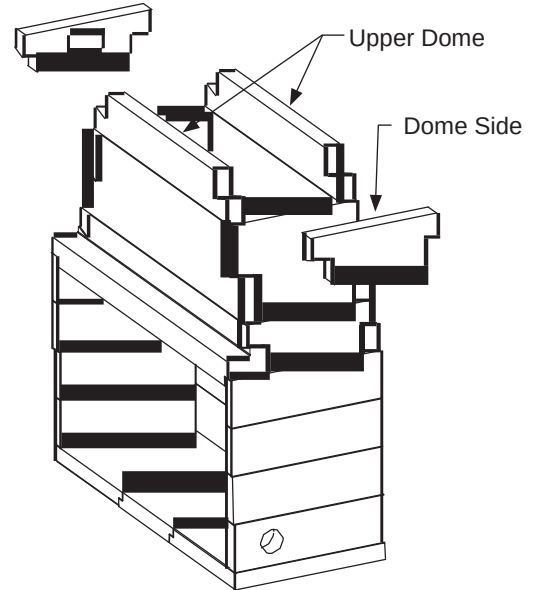

**Figure 46 - Attaching Middle Dome**
13) **MM63 ONLY:** Position Middle Domes so that outer faces are flush to the lower dome as shown in Figure 46. Carefully install Dome Middle Sides as shown in Figure 46.
**NOTE:** The chimney hole on the Dome Top is not centered from front to back - it should be offset closest to the rear of the fireplace (see Figure 46).